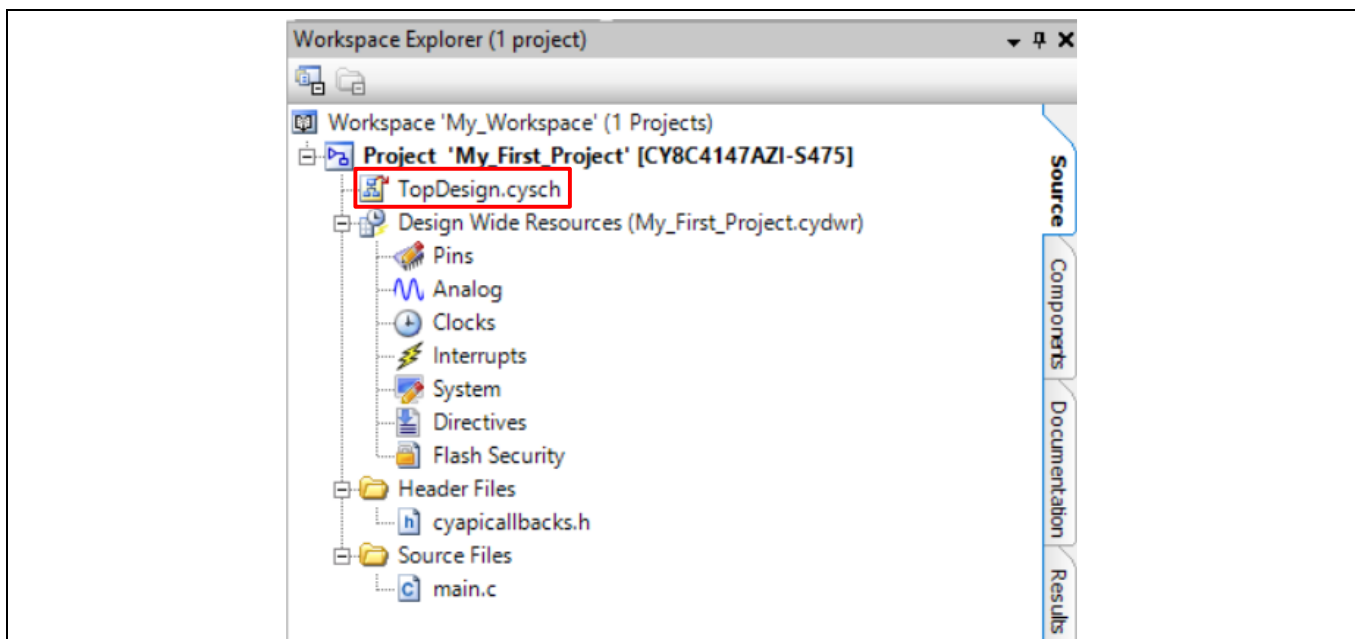

Figure 37 Opening TopDesign schematic
5. Creating a new project generates a project folder with a baseline set of files shown in the **Workspace Explorer** (see Figure 37). To open the project schematic file, double-click *TopDesign.cysch*.